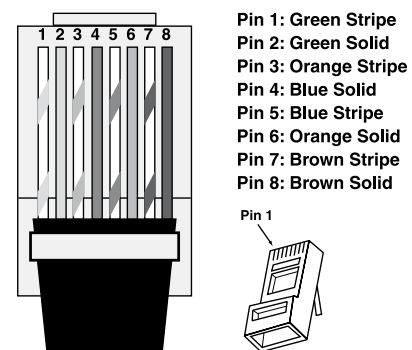

Figure 2: RJ-45 Power Connector
3. Untwist the wire pairs and spread them flat. Arrange them as shown in Figure 2.
2. Install RJ-45 connectors on both ends of the Cat5 cable as explained in Figure 2: Cat5 / RJ-45 Power connector. The Cat5/ RJ-45 cable pin assignment is: